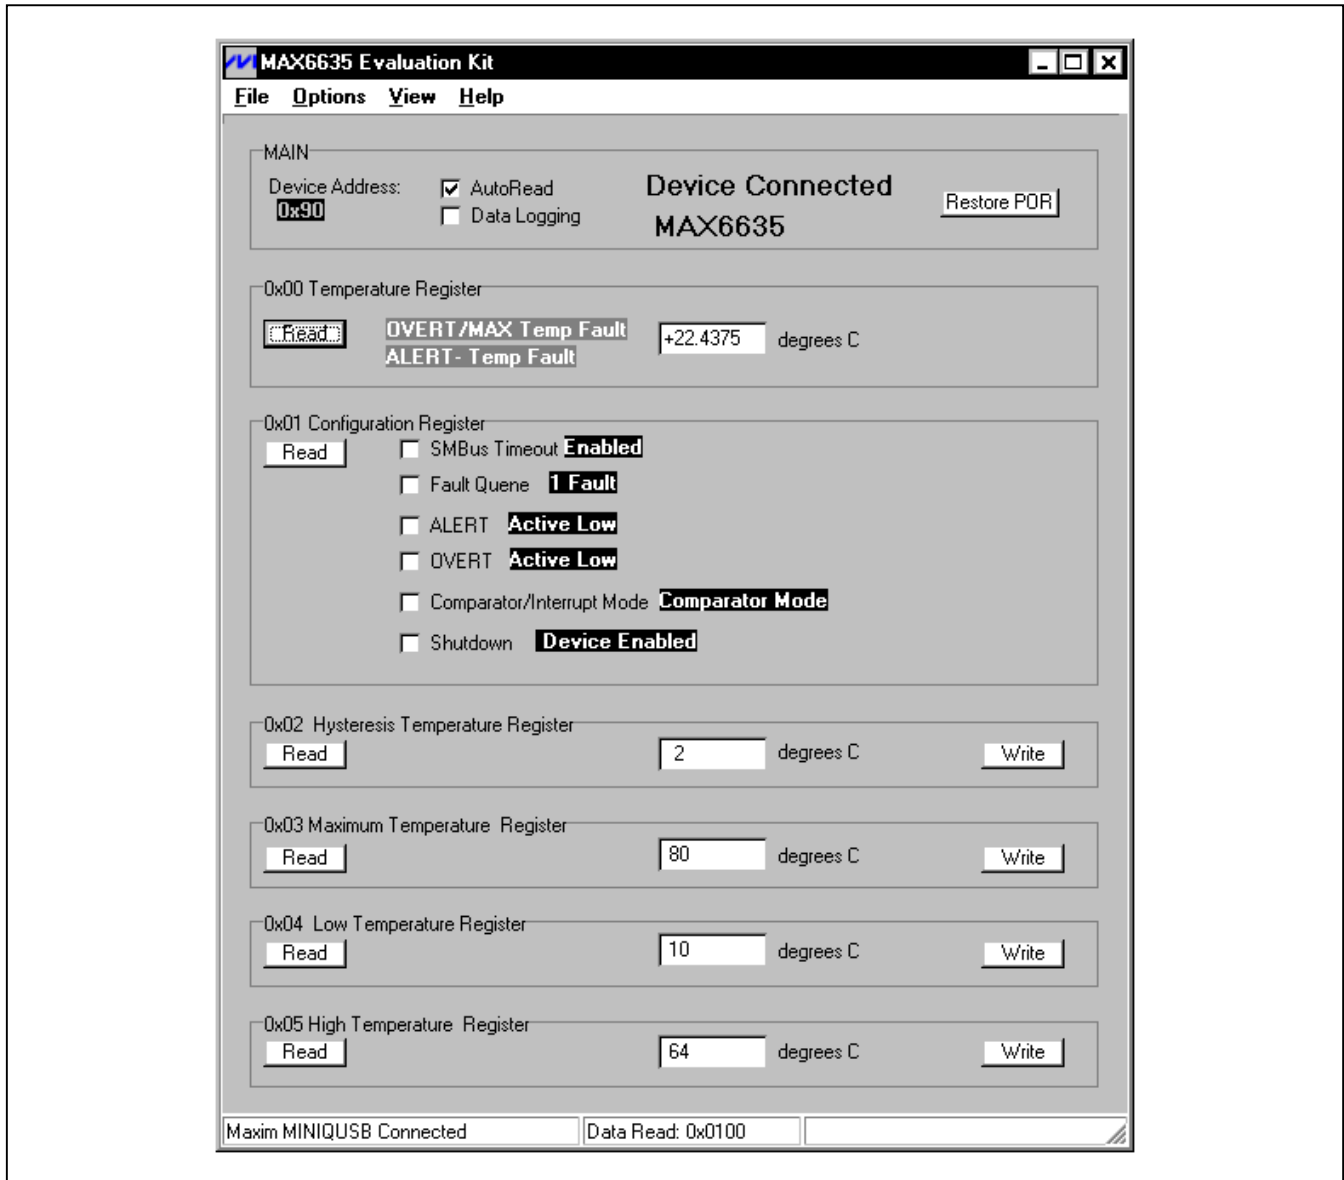
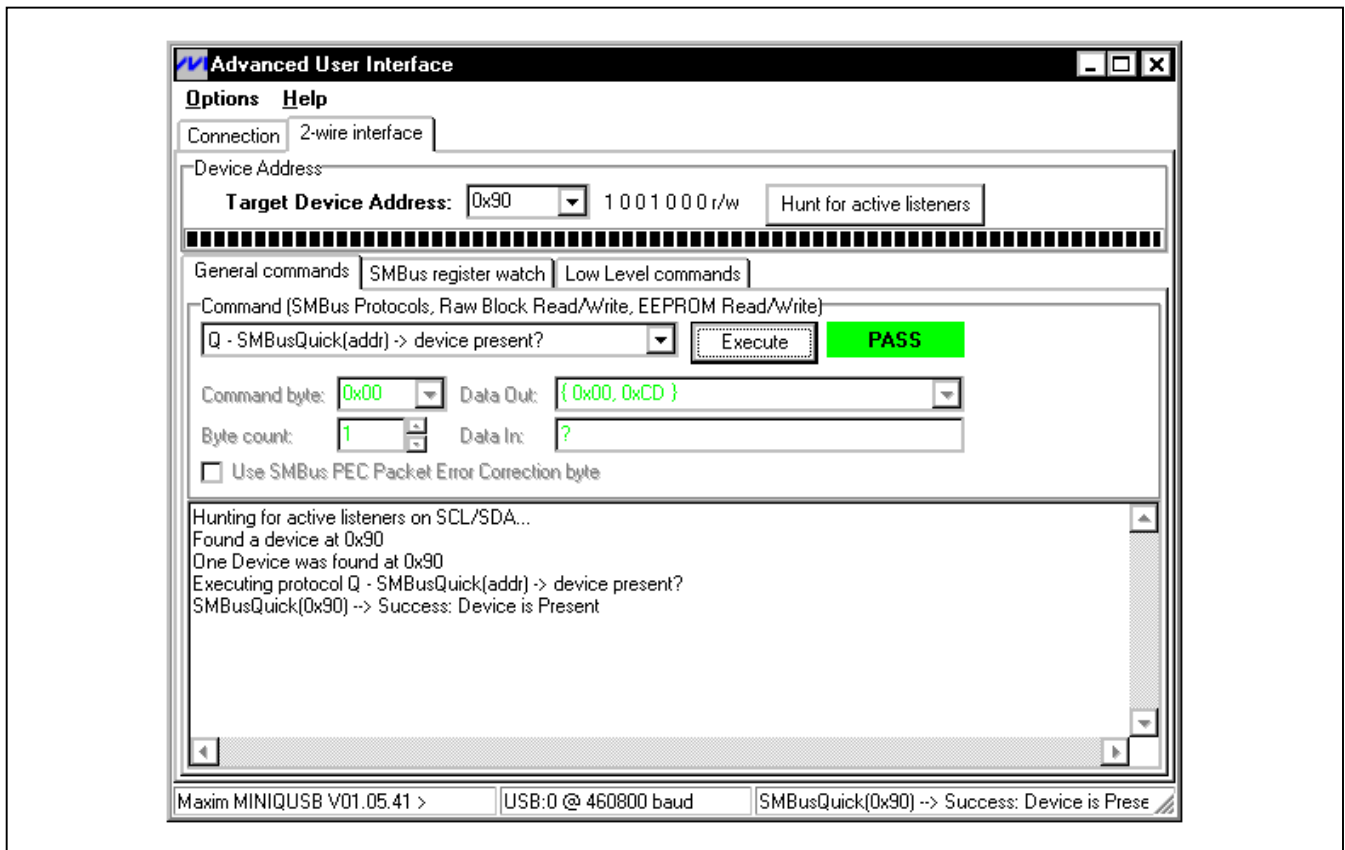

Figure 1. Typical Operating Circuit
Figure 2. Command Module Interface Window
- 8) Start the MAX6635 EV kit software by opening its icon in the **Start | Programs** menu. The EV kit software main window appears, as shown in Figure 1.
- 9) Normal device operation is verified when **Device Connected** and **MAX6635** are displayed in the bottom-left status bar on the MAX6635 EV kit main window (Figure 1).
The **MAIN** group box displays the slave ID address, checkboxes to enable/disable the MAX6635 EV kit AutoRead and data-logging functions, and displays whether the EV kit is currently configured in demo mode, or if a valid device is connected (Figure 1). The **AutoRead** checkbox enables periodic polling of all register values. The software determines the **Device Address** when first starting up, by searching all possible I²C device addresses. This device address is automatically updated if slave address-select jumpers are changed while the program is running. A **Restore POR** software GUI button is available to restore the MAX6635 registers to their power-on-reset (POR) state.
Temperature data is displayed in the **0x00 Temperature Register** group box (Figure 1). To read the sensor temperature, simply press the **Read** button and the sensor temperature will be displayed in the **degrees C** edit box on the software interface with a 0.0625°C resolution. The **AutoRead** checkbox is provided to continuously read and display the temperature and temperature threshold limit registers. Check the **AutoRead** checkbox to activate this function.
There are two methods for communicating with the MAX6635 IC, through the MAX6635 EV kit software main window (Figure 1), or through the interface window available by selecting the **View | Advanced User Interface** menu item from the menu bar. The **Advanced User Interface** window (Figure 2) includes a **2-wire interface** tab that allows for execution of the frequently used commands. The utility configures the 2-wire serial-interface parameters, such as start and stop bits, acknowledgements, and clock timing. The 2-wire interface screen allows sending general-purpose 2-wire commands using the **SMBusWriteByte**, **SMBusWriteWord**, **SMBusReadByte**, and **SMBusReadWord** protocols.